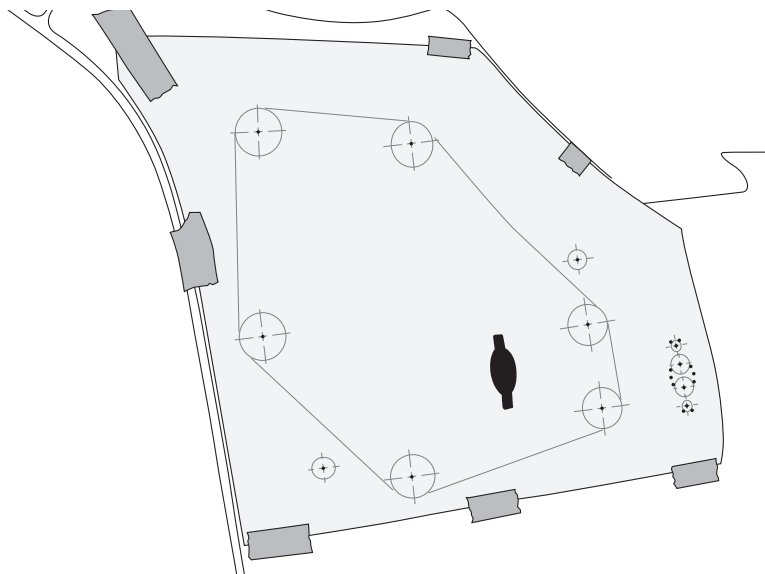

Figure 3
2. Drill all 22 center marks with a 1/16" drill bit (Fig. 3).